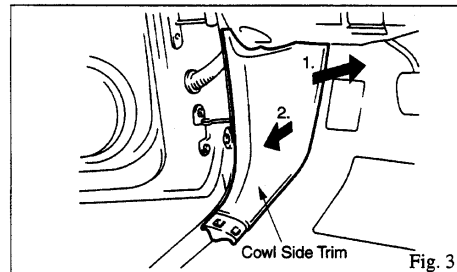

Fig. 3
(3) Remove the driver's & passenger's cowl side trim. (Fig. 3)